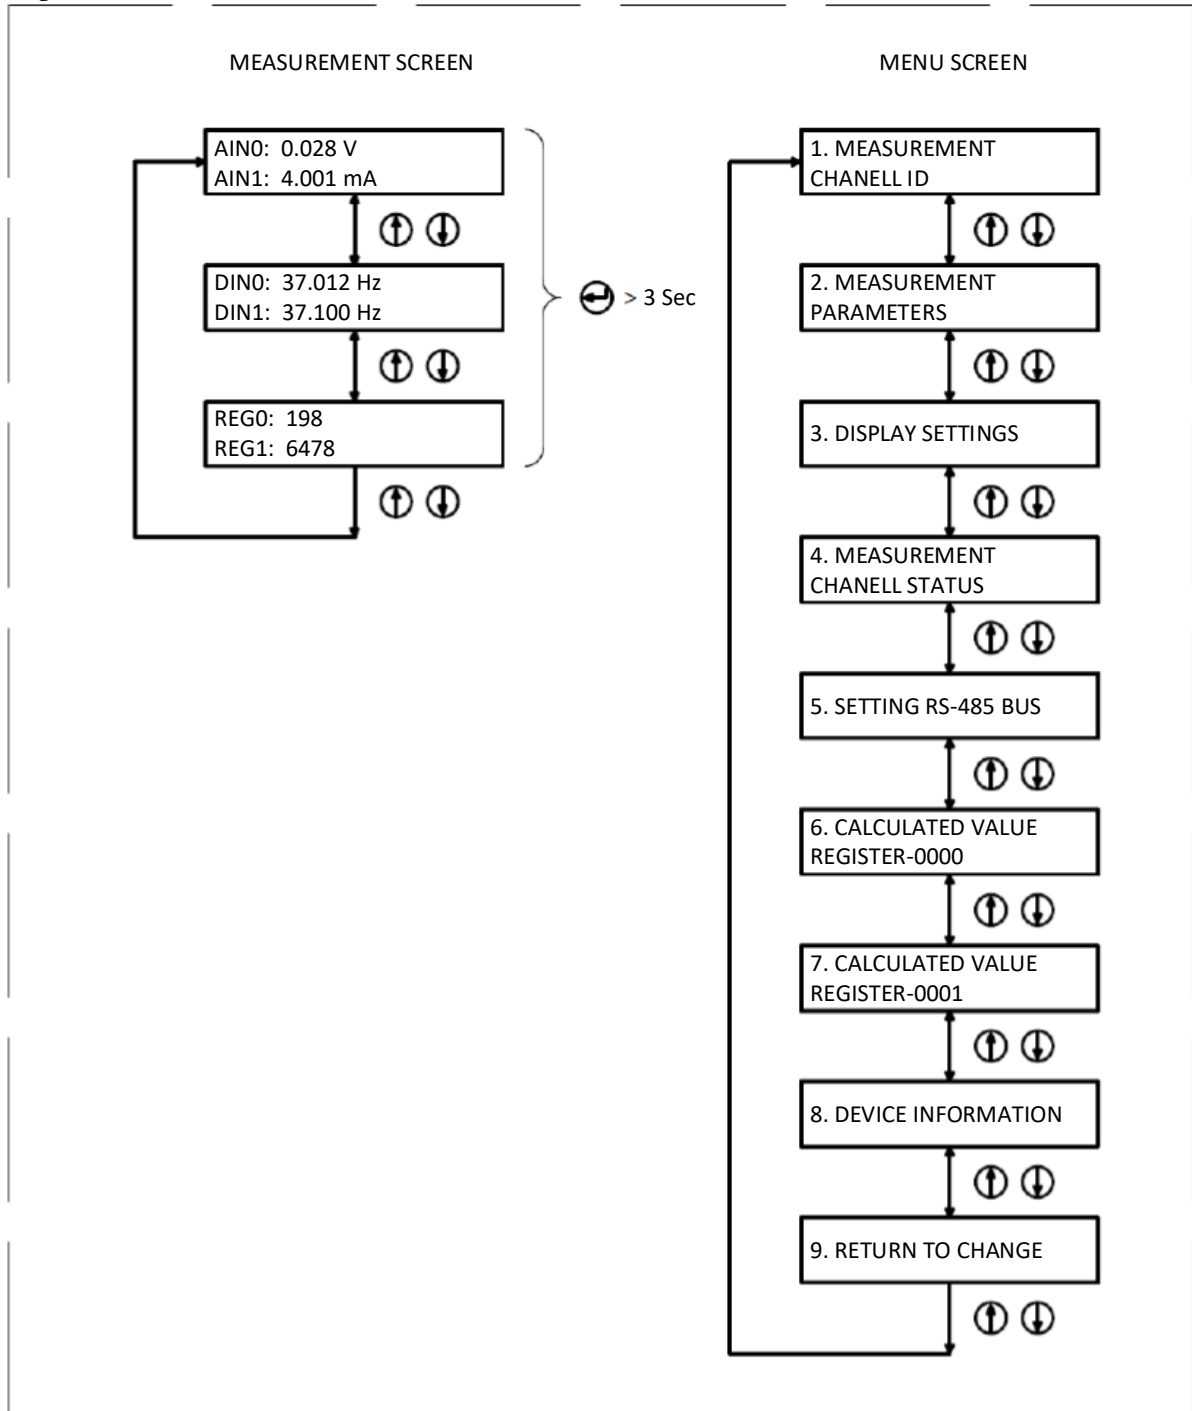

Fig.5 Menu structure and screen of measurings
4.2. The screen in the measurement mode, as well as the menu structure are shown in Fig.5. To enter the menu mode, press and hold the button for more than 3 seconds.